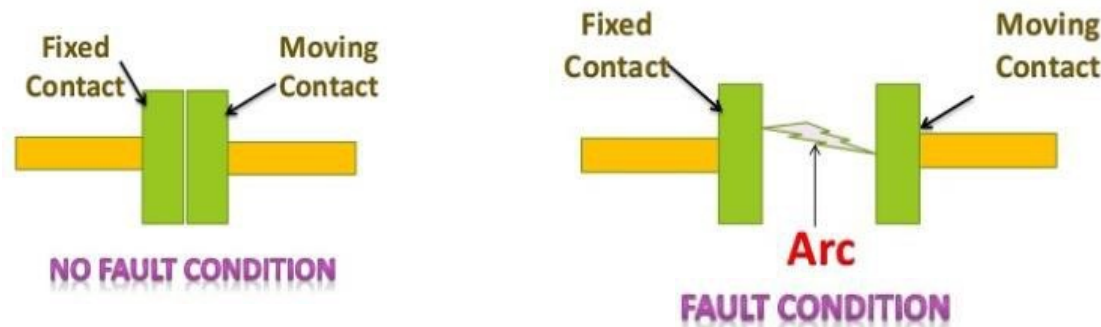

Figure 1.6: Circuit Breaker Arc Phenomenon
- When contacts of circuit breaker start separating Figure 1.6, the contact resistance starts increasing. This increases the $(I^2 r)$ which is heat produced. During the interruption of the fault this heat energy becomes very high.